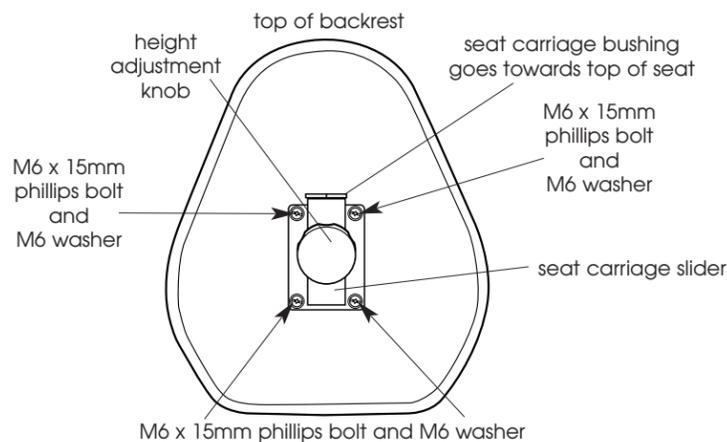

Figure 4b - Install Seat Carriage Slider
- Place Backrest upside down on a flat surface, see Figure 4b.
- Position Seat Carriage Slider on Backrest, as shown in Figure 4b, with Height Adjustment Knob facing away from Backrest and Seat Carriage Bushing towards top of Backrest. Attach using (4) Phillips Bolts and (4) Washers from fastener pack. Tighten bolts.